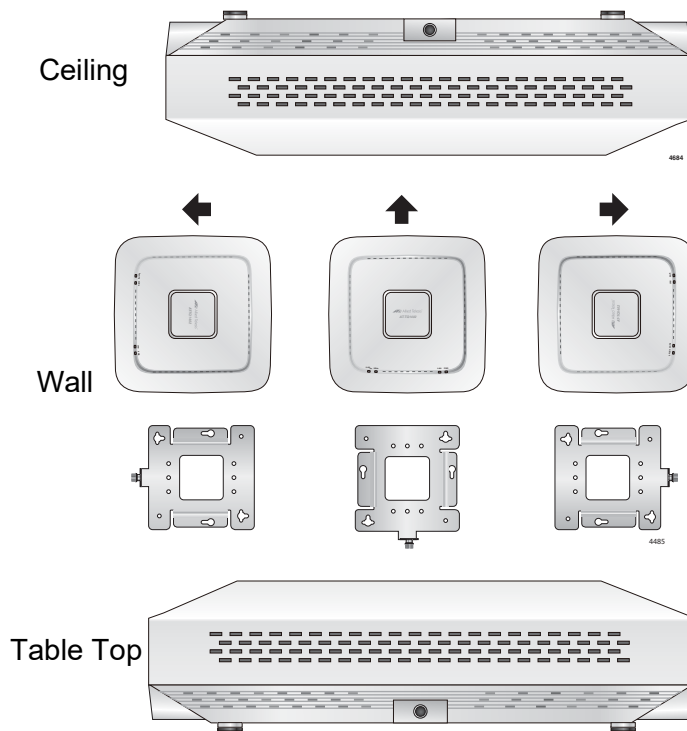

Figure 4. Acceptable Orientations on a Tabletop, Wall and Ceiling Installation
- ❑ Refer to Figure 4 for the acceptable orientations for the table top, wall and ceiling installations.
1. Choose an allowable orientation of the access point from the examples shown in Figure 4 on page 33.